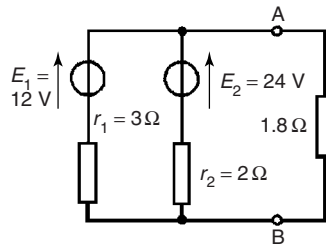
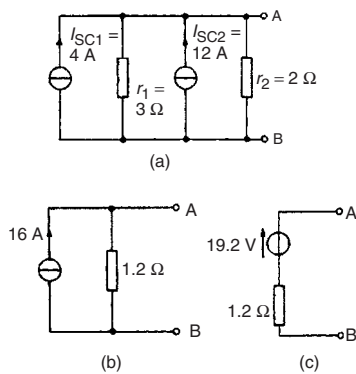

Figure 13.71
Figure 13.72
Problem 20. (a) Convert the circuit to the left of terminals AB in Fig. 13.71 to an equivalent Thévenin circuit by initially converting to a Norton equivalent circuit. (b) Determine the current flowing in the $1.8\ \Omega$ resistor.
(a) For the branch containing the 12 V source, converting to a Norton equivalent circuit gives $I_{SC1} = 12/3 = 4\text{ A}$ and $r_1 = 3\ \Omega$. For the branch containing the 24 V source, converting to a Norton equivalent circuit gives $I_{SC2} = 24/2 = 12\text{ A}$ and $r_2 = 2\ \Omega$. Thus Fig. 13.72(a) shows a network equivalent to Fig. 13.71
From Fig. 13.72(a) the total short-circuit current is $4 + 12 = 16\text{ A}$ and the total resistance is given by $(3 \times 2)/(3 + 2) = 1.2\ \Omega$. Thus Fig. 13.72(a) simplifies to Fig. 13.72(b). The open-circuit voltage across AB of Fig. 13.72(b), $E = (16)(1.2) = 19.2\text{ V}$, and the resistance 'looking-in' at AB is $1.2\ \Omega$. Hence the Thévenin equivalent circuit is as shown in Fig. 13.72(c).
(b) When the $1.8\ \Omega$ resistance is connected between terminals A and B of Fig. 13.72(c) the current